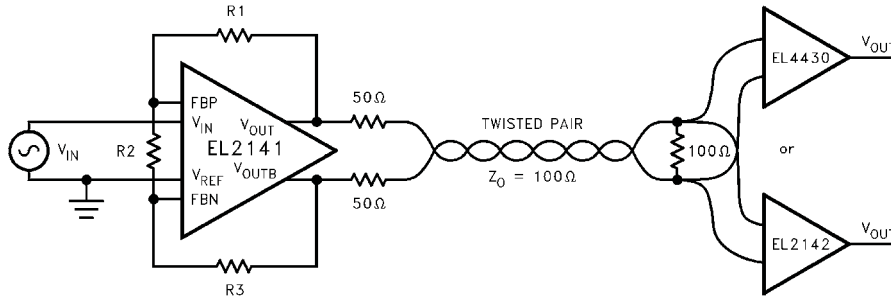

FIGURE 1. TYPICAL TWISTED PAIR APPLICATION
**H2** The second harmonic arises from the input stage, and the lower the applied differential signal amplitude, the lower the magnitude of the second harmonic. For practical considerations of required output signal and input noise levels, the user will end up choosing a circuit gain. Referring to Figure 1, it is best if the voltage at the negative feedback node tracks the V\_REF node, and the voltage at the positive feedback node tracks the V\_IN node respectively. This would theoretically require that R1 + R2 = R3, although the lowest distortion is found at about R3 = R1 + (0.7\*R2). With this